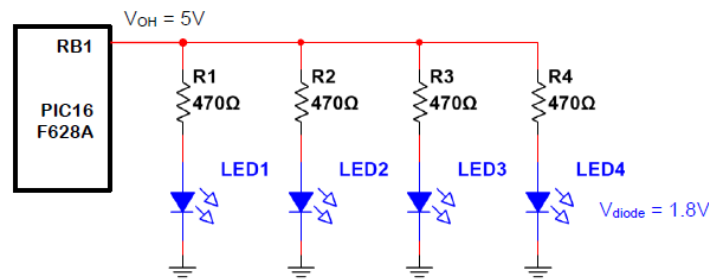

Figure 1(b)
- b) Figure 1(b) shows output connection of PIC16F628A microcontroller driving 4 LEDs in parallel configuration.
- ii) Referring to the Electrical Characteristics of the microcontroller as shown in Table 1(b), justify your explanation with calculation whether Figure 1(b) configuration is going to work. (3 marks)